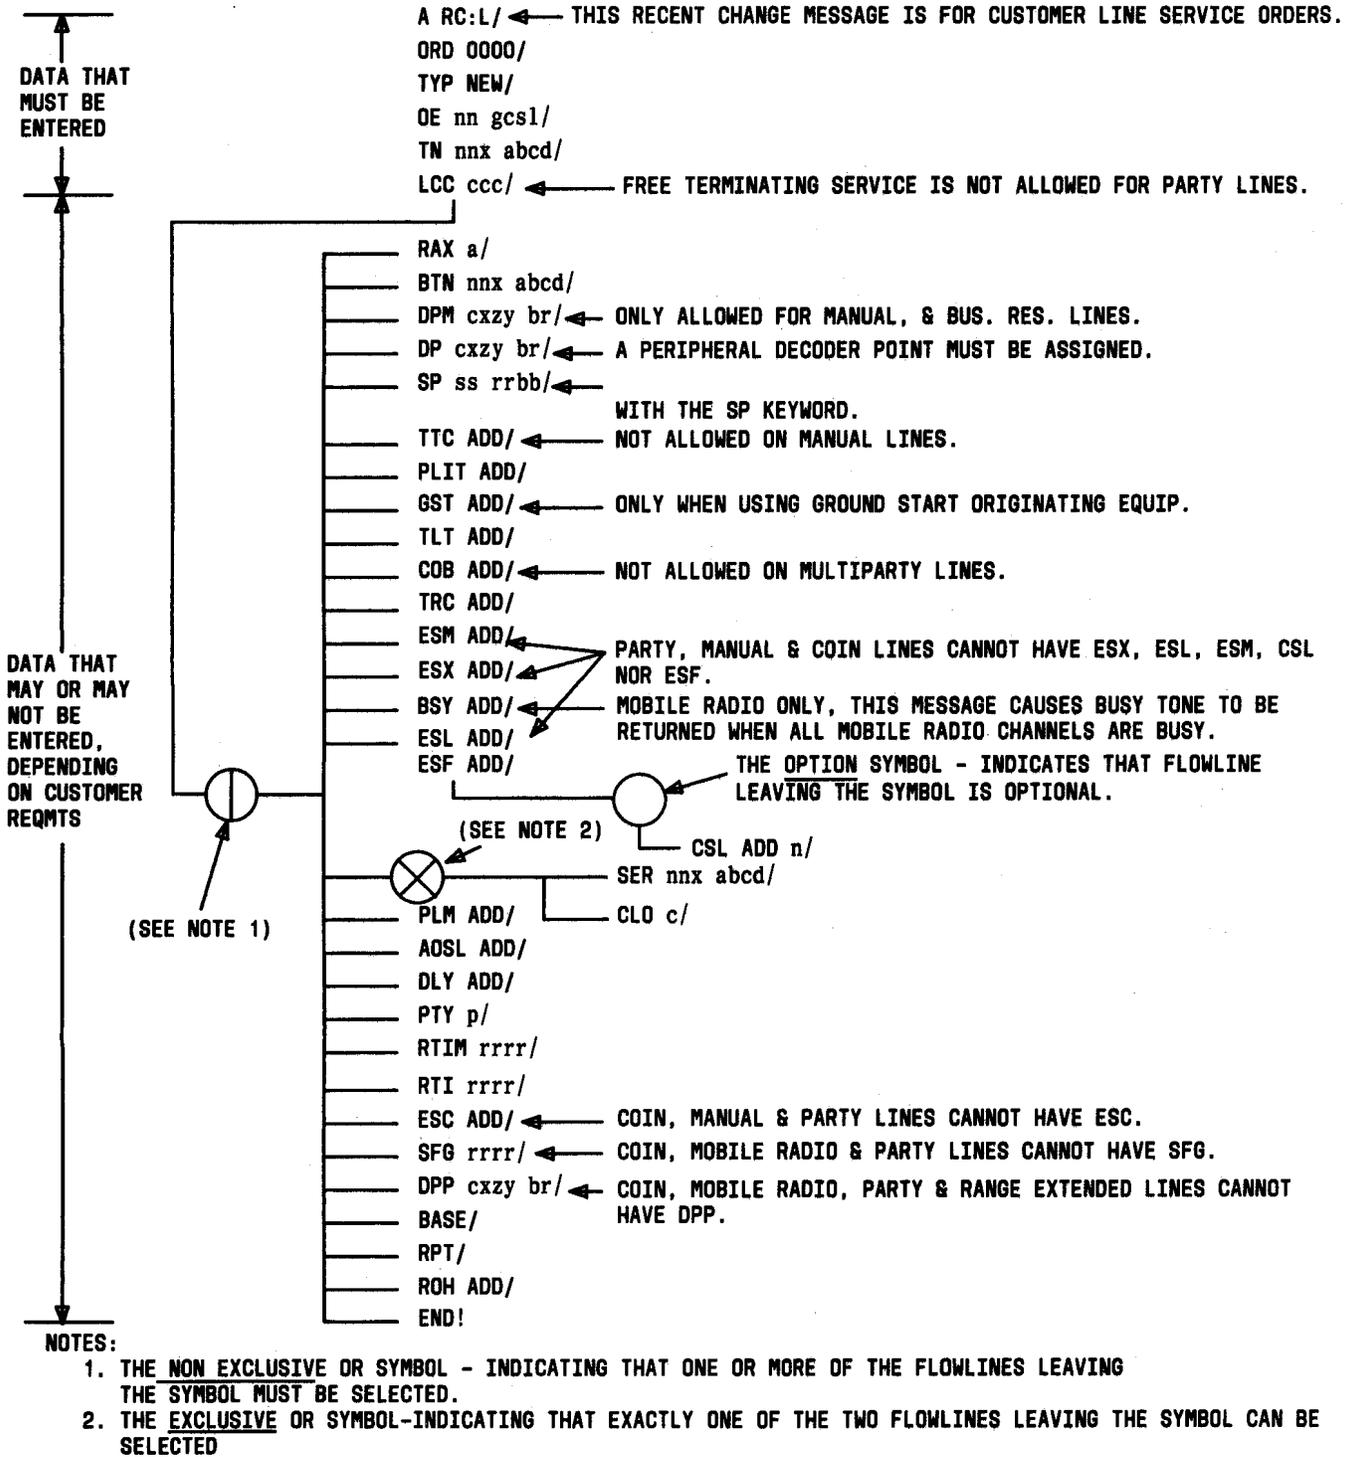

Fig. 11—Line Messages—New Assignments Flowchart
5.06 The flow diagram in Fig. 11 provides the proper keyword format required in the preparation of service order line messages for new assignments.
6.01 The following is an example of the use of *some* of the keywords in a NEW type ESS order for noncentrex (Fig. 11). One or all of the features and equipment may be added depending on customer requirements.